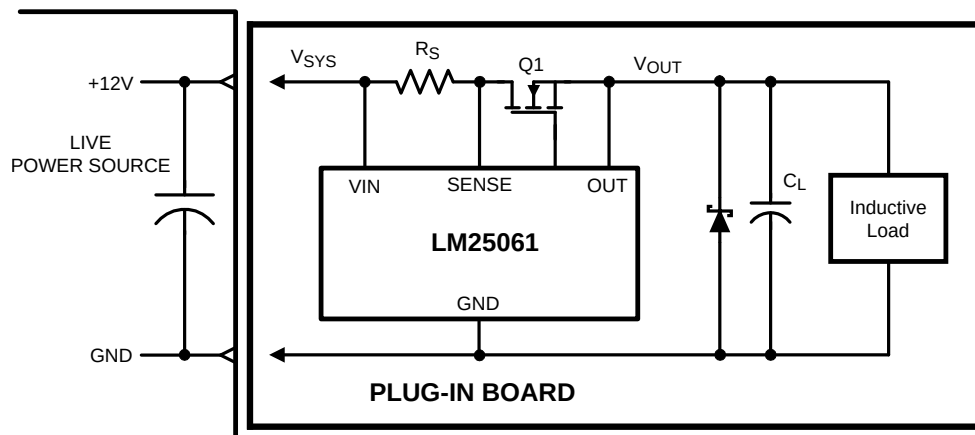

Figure 37. Output Diode Required for Inductive Loads
- If the load powered by the LM25061 hot swap circuit has inductive characteristics, a Schottky diode is required across the LM25061's output, along with some load capacitance. The capacitance and the diode are necessary to limit the negative excursion at the OUT pin when the load current is shut off. If the OUT pin transitions more than 0.3V negative the LM25061 will internally reset, interfering with the latch-off feature of the LM25061-1, or the restart cycle of the LM25061-2. See Figure 37.